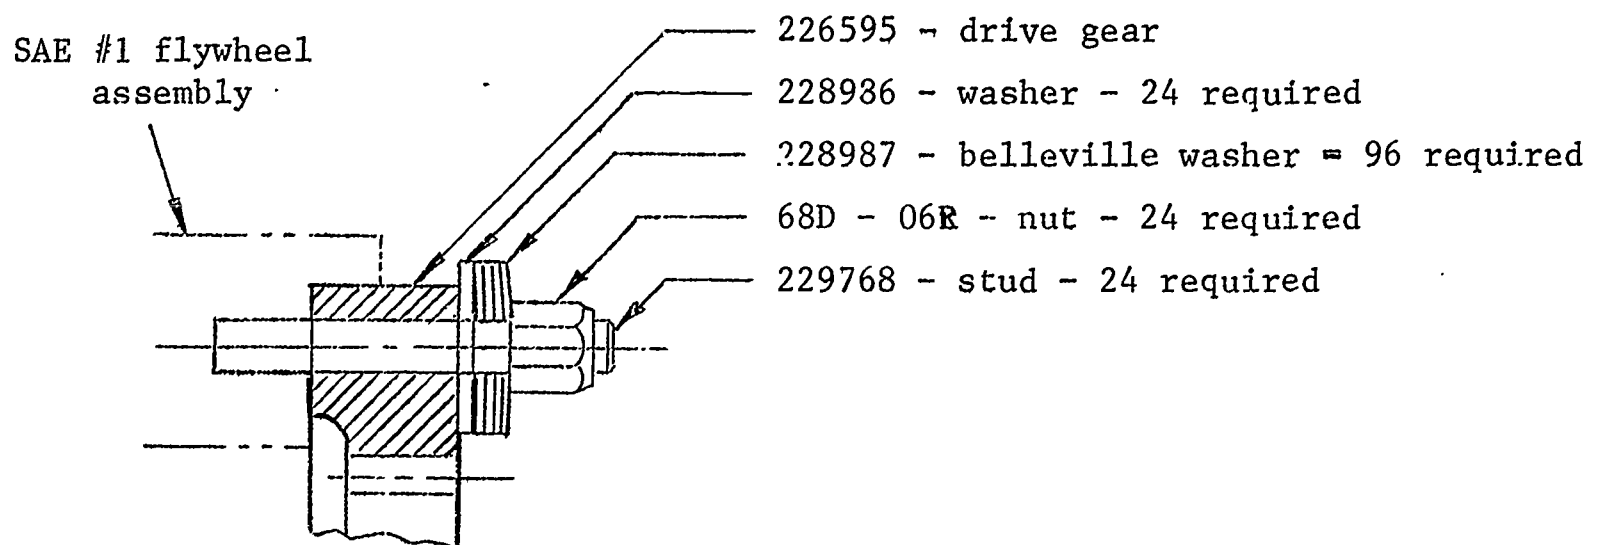

Fig. 5 Drive gear to flywheel installation
**PRELIMINARY ASSEMBLY --** To be certain of a successful installation of the converter to the engine and to prevent damage to the equipment, follow these steps closely. **NOTE:** Refer to Figure 5 for these steps.
2. Install three (3) studs (229768), equally spaced, to the bottom of thread and torque to 33-36 ft-lbs.
4. Install parts as shown on (3) studs -- torque 45 ft-lbs.